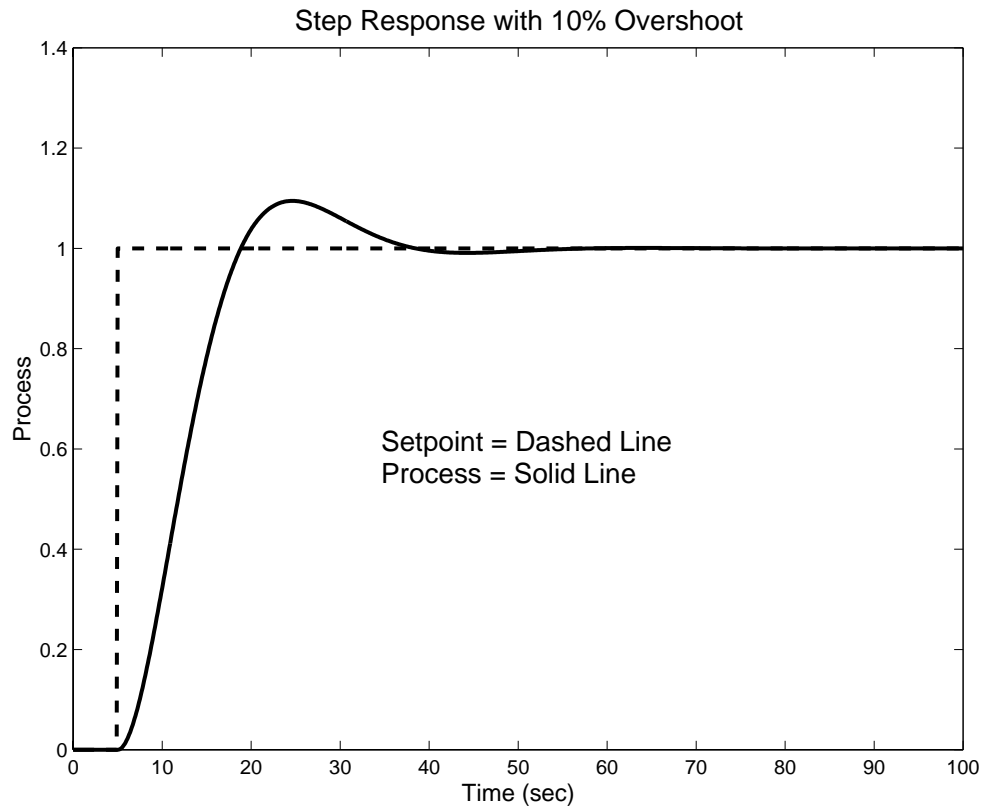

Figure 1. 10% Overshoot Step Response
4. Before beginning, select the performance criteria you will use to evaluate the tuning. If you don't have a criteria in mind, how will you know when you are finished? The criteria I like best is to make the response as fast as possible while keeping the overshoot between 10% and 20%. Figure 1 shows a step response curve with about 10% overshoot. Other criteria you may choose include rise time, settling time, and offset. Remember that there are physical limitations in all control loops, so you can't arbitrarily specify a very fast response time if the process can not respond that fast.